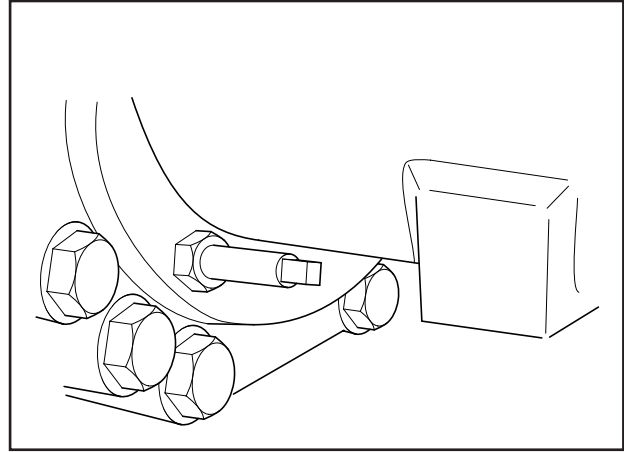

FIGURE 3-14. BRAKE RELEASE SCREW
5. On the sides of the rear end, locate the screw with a square head (see Figure 3-14).